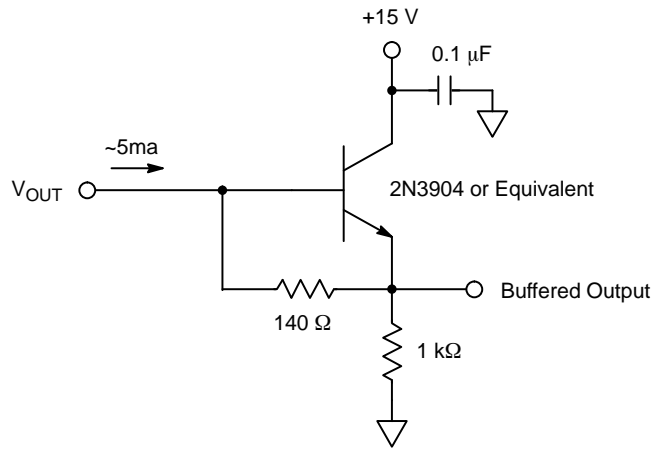

Figure 8. Example Output Structure Load Diagram
1. An output load sink must be applied to  $V_{OUT}$  to activate output amplifier – see Figure 8.